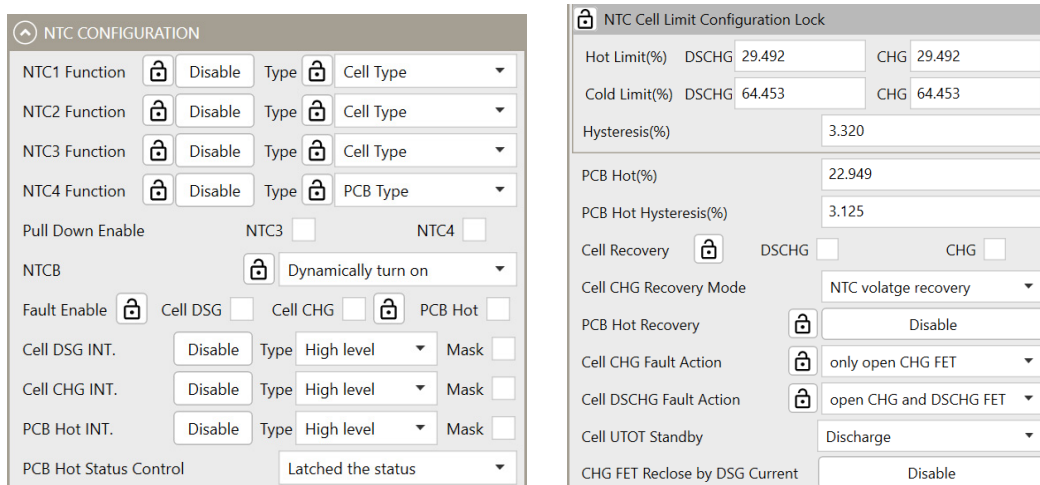

Figure 19: NTC Configurations
21. Figure 19 shows how to configure the negative temperature coefficient (NTC), with NTCx (where x = 1, 2, 3, or 4).